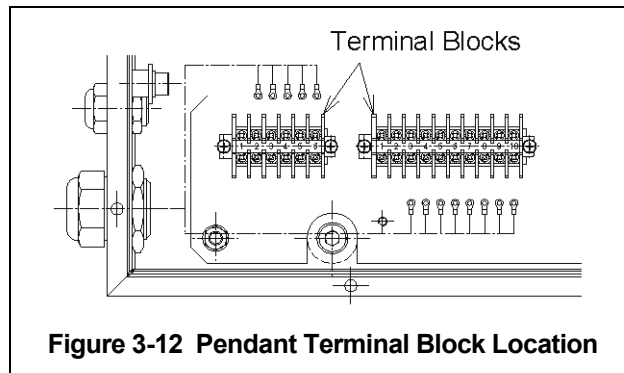
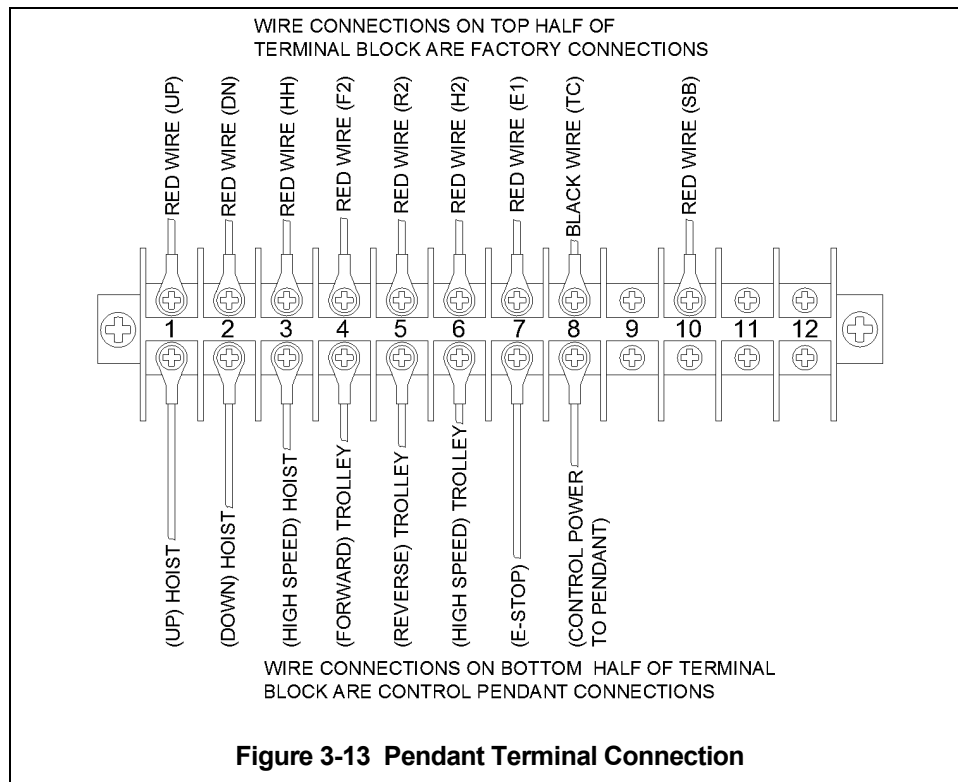

Figure 3-12 Pendant Terminal Block Location
Figure 3-13 Pendant Terminal Connection
- 1) Refer to **Figure 3-12**, **Figure 3-13** and the hoist wiring diagram for pendant connections.
- 5) Access to terminal strip: The terminal block/strip is mounted to the left of the VFD in the control box, as shown in **Figure 3-12**.
- 6) Connect the individual pendant leads to the correct terminals as shown in **Figure 3-13**. Make sure the terminals are securely tightened and each lead is completely isolated.